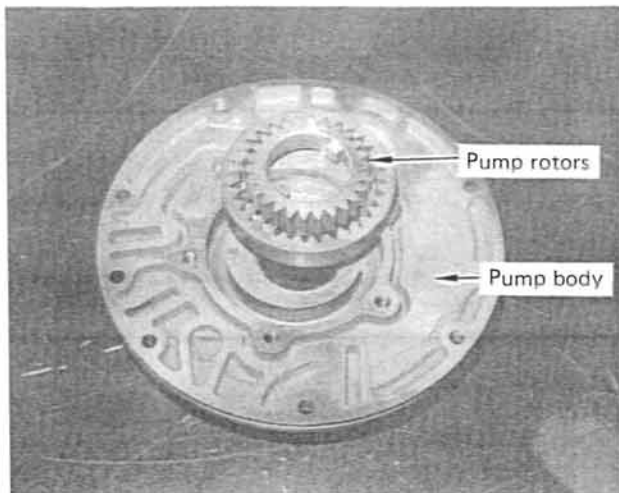

FIGURE 17
**STEP 3.** Remove rotors (gears) from the body. (See Fig. 17) Remove the front seal being careful not to damage the bushing. Use a screwdriver or chisel to knock the seal out from the inside.